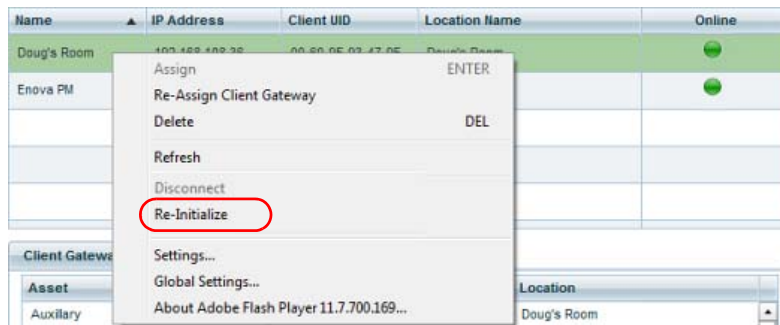

FIG. 163 Client Gateways Table - context menu
2. Right-click to access the context menu, and select **Re-initialize** (FIG. 163). This forces the Client Gateway to re-initialize all device and parameter registration.